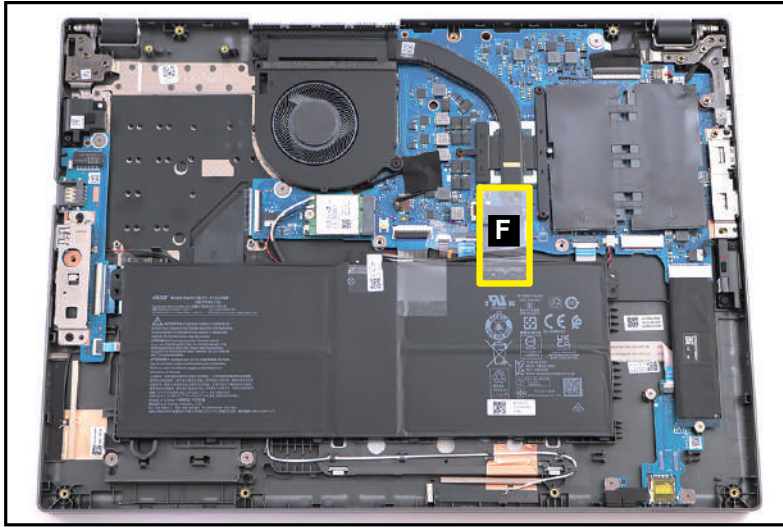

Figure 3-167. Replacing the Battery Pack
5. Attach the mylar (F) onto the designated slot as shown in Figure 3-167.